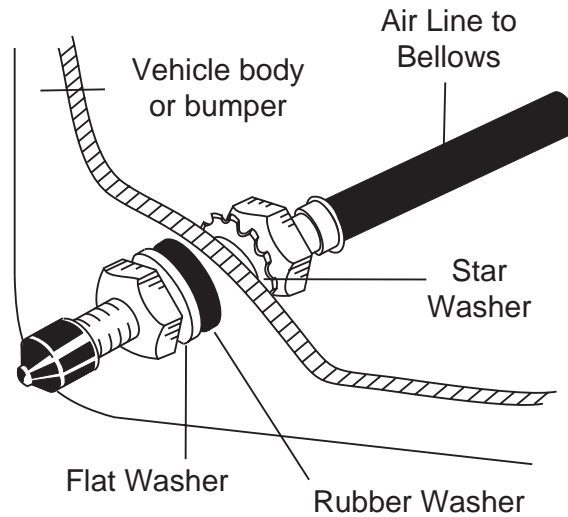
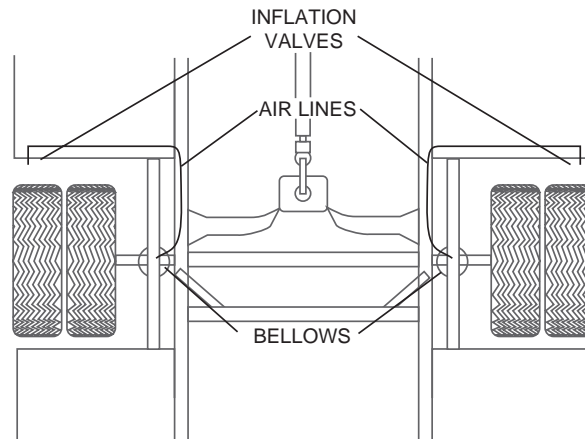

fig. 7
fig. 8
- A. Select locations on the vehicle for the air inflation valves (Figure 8). The location can be on the bumper or on the body of the vehicle, but be sure that it is protected so that the valve will not be damaged and will still be accessible for the air chuck. Use a standard tube cutter, a razor blade, or very sharp knife to cut the airline assembly into two equal parts. A clean square cut will ensure against leaks. Drill a 5/16" hole and install the air inflation valve, as shown in Figure 7. Install inflation pressure decal near inflation valve.